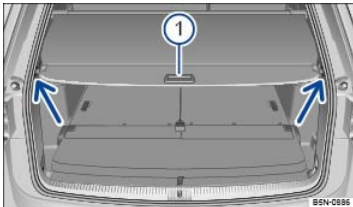

Fig. 156 In the luggage compartment: Opening the luggage compartment cover.
- Pull the luggage compartment cover by the handle ⇒ Fig. 156① towards you, then up and out of the stops (arrows) at the rear of the luggage compartment.
- Pull the retracted luggage compartment cover evenly toward the rear and guide it into the stops ⇒ Fig. 156 (arrows).